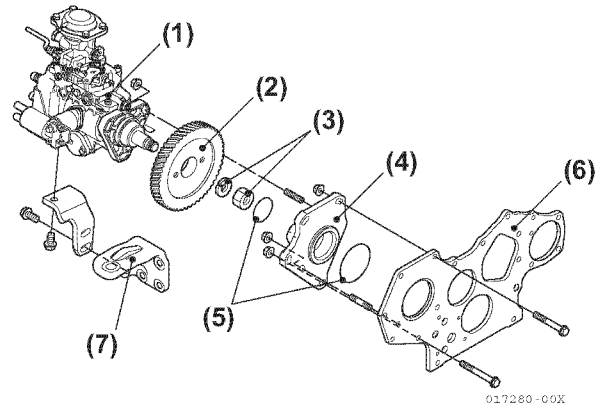

Figure 5-162
- Fit the pump drive gear to the pump camshaft (**Figure 5-162**).